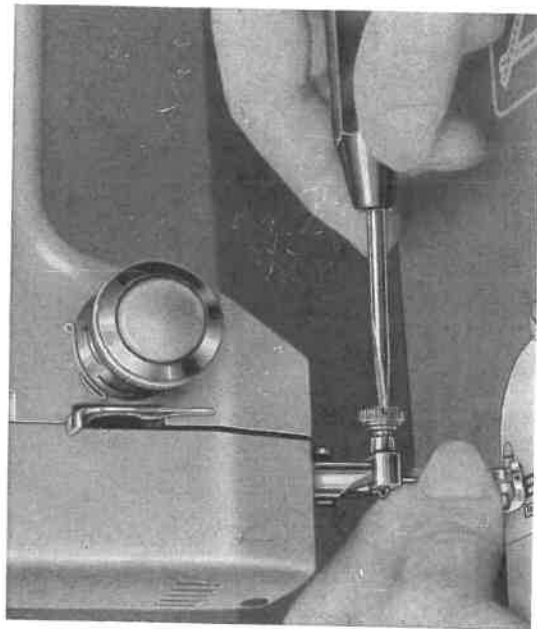

Fig. 6
- b) Loosen the screw and insert the needle into the needle clamp as shown in Fig. 6. Push the needle into the groove of the needle bar as far as it will go.